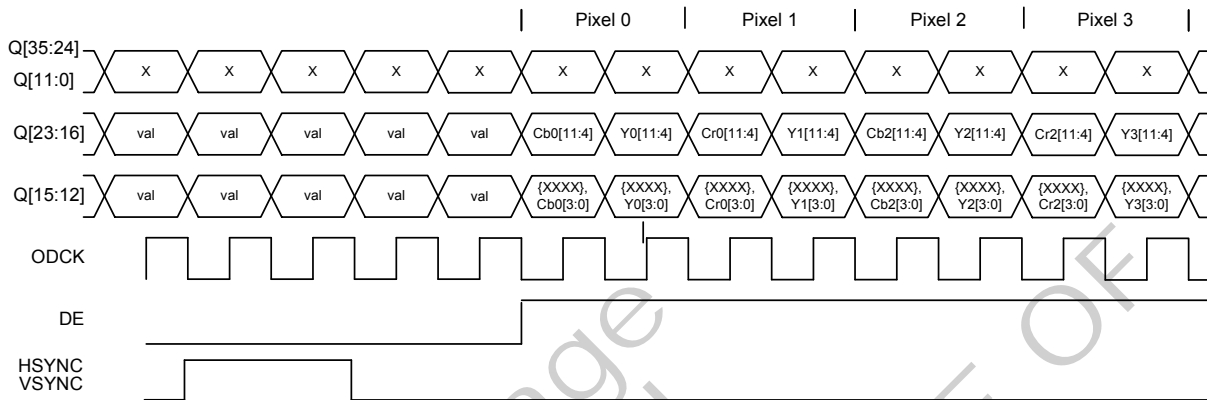

Figure 29. YC Mux 4:2:2 Timing Diagram
The video data is multiplexed onto fewer pins than the mapping in Table 20, but complete luminance (Y) and chrominance (Cb and Cr) data is still provided for each pixel because the output pixel clock runs at twice the pixel rate. Figure 29 shows the 24-bit mode. The 16- and 20-bit mappings use fewer output pins for the pixel data. Note the explicit syncs. Figure 29 shows OCLKDIV = 0 and OCKINV = 1.